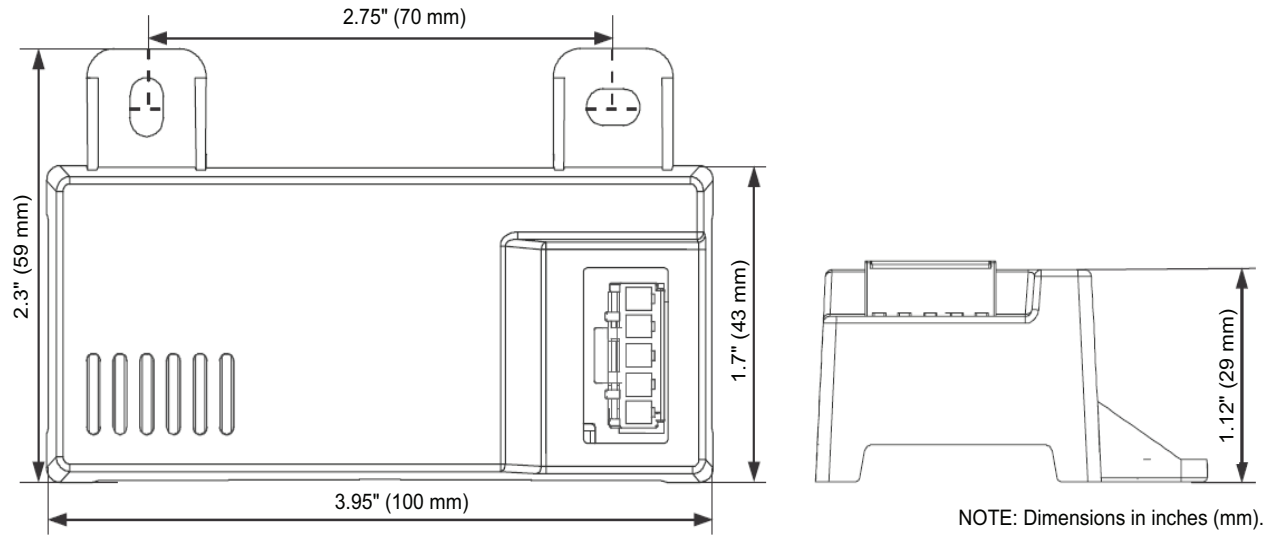
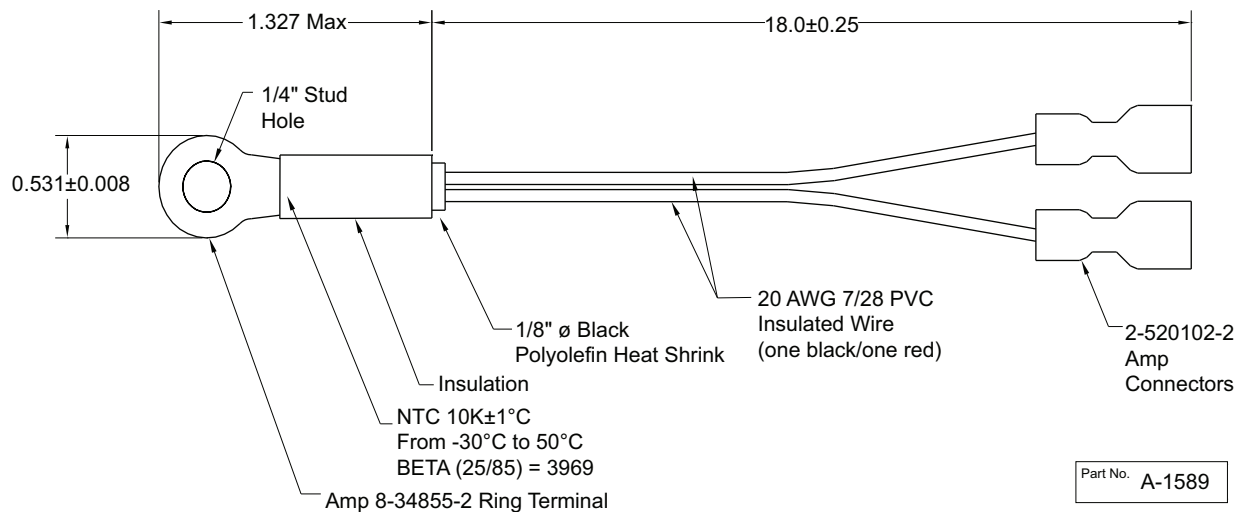
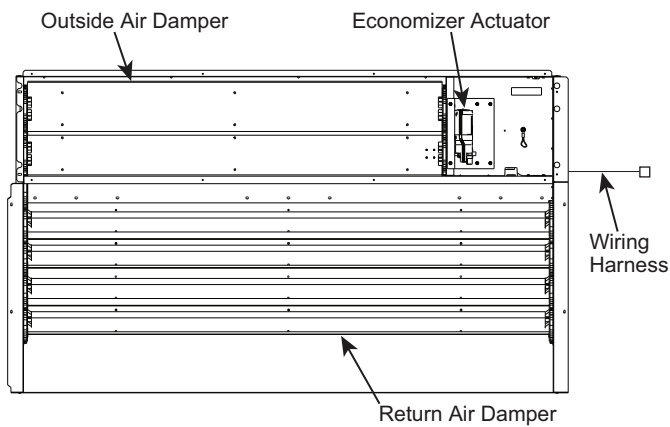

Fig. 74 — HH57LW001 Dimensional, Connection and Switching Information
Fig. 75 — HH79NZ039 Dry Bulb and Mixed Air Sensor Wiring
Fig. 76 — EconomizerONE System Component Locations
When using the HH57LW001 enthalpy sensor (see Fig. 74) for outside air changeover, the existing HH79NZ039 dry bulb sensor (see Fig. 75) must be removed. The enthalpy sensor will be mounted in the same location as the dry bulb sensor (see Fig. 76). When the enthalpy sensor's OA (Outside Air) temperature, enthalpy, and dew point are below their respective set points, outside air can be used for free cooling. When any of these are above their set point, free cooling will not be available. Enthalpy set points are configurable and create an enthalpy boundary according to the user's input. For additional details, see Fig. 77-78 and Table 27.
The optional enthalpy control sensor (P/N: HH57LW001) communicates with the POL224 economizer controller using the 5-wire harness, 48TC005213. The HH57LW001 sensor can be used as a single outside air enthalpy, a differential return enthalpy, or a differential return temperature sensor. Refer to the base unit control wiring diagrams found earlier in this book to wire the HH57LW001 enthalpy sensor for each option. See Fig. 74 and Table 29 on page 57 to locate the wiring terminals for each enthalpy control sensor.
Economizers are shipped standard with an HH79NZ039 outside air dry bulb sensor (refer to Fig. 75). System default setting (high temp limit) is 63°F (17°C) and has a range of 48°F to 80°F (9°C to 27°C). Sensor is factory installed on economizer.
If installing the optional HH57LW001 enthalpy sensor, the HH79NZ039 dry bulb outside air sensor must first be removed. Wire sensor to harness 48TC005213 and the (5) wires from the harness to the EconomizerONE harness in the return air chamber. Harness 48TC005213 has a 5-pin plug that connects directly to the HH57LW001 enthalpy sensor. Refer to the base unit control wiring diagrams earlier in this book for wiring connections. Refer to Fig. 74 and see Table 29.